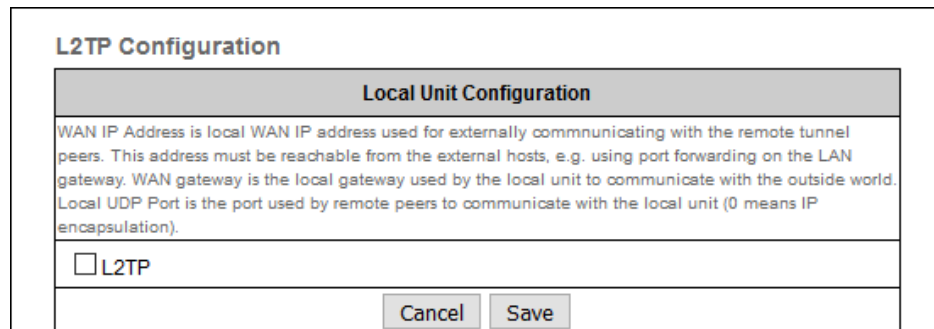

Figure 39. Configurator GUI (L2TP Configuration dialog)
- The **L2TP Configuration** dialog will be shown (Figure 39 \(page 79\)).